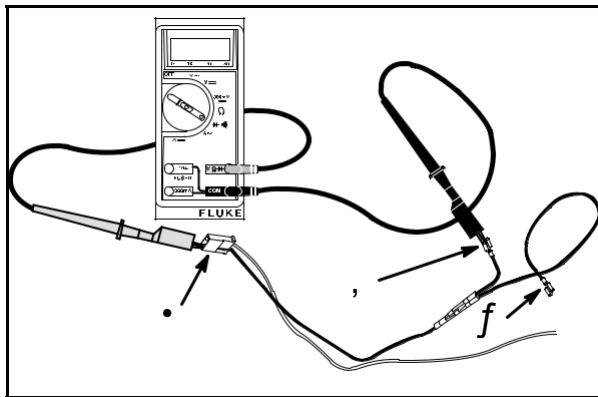

Fig. 46
Insert RED test lead clip into connector (1) (BLACK wire), **Fig. 46**. Leave attached for remainder of test.